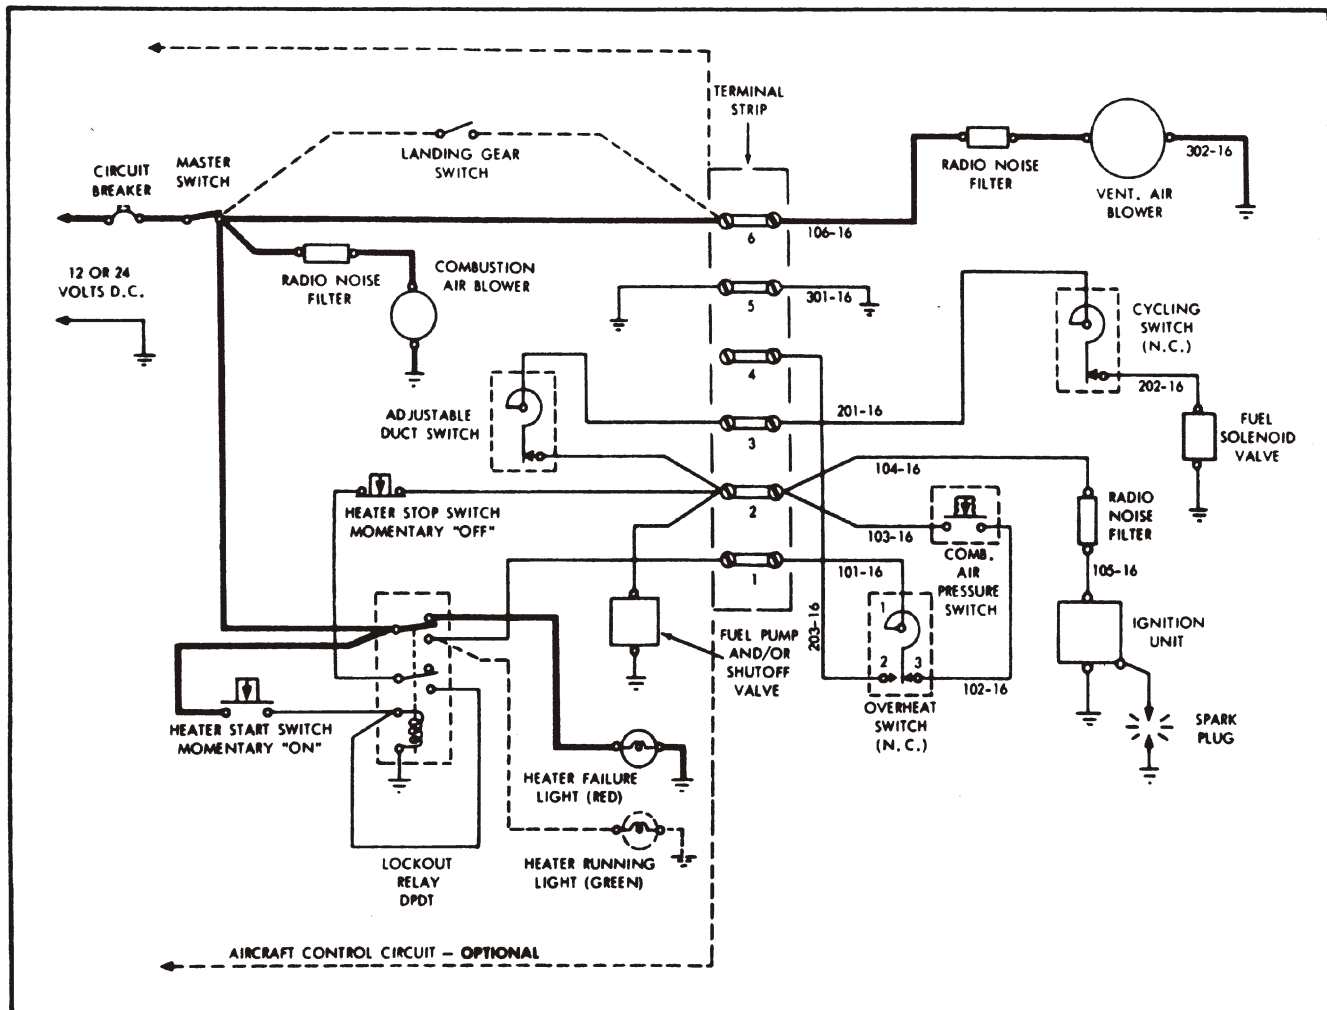

FIGURE 3-6 Primary Power Circuit (Typical)
START SWITCH" energized. (See Figures 3-6 through 3-8.)
The schematic wiring diagrams (Figures 3-6 through 3-8) show, in addition to the heater circuitry, a suggested aircraft control circuit. For the purposes of this manual, the circuitry shown in these illustrations will be utilized to describe electrical checks. However, the aircraft control circuit can vary in different installations and also the heater circuit.
- a. With the "MASTER" switch energized, voltage (24-volts nominal) should be present at the following locations (See Figure 3-6):
- (1) Terminal No. 6 on the heater terminal strip.
- (2) From terminal No. 6 of the heater terminal strip to the ventilating air motor.
- (3) The combustion air blower will be energized.
- (4) To the common connection of the DPDT relay in the suggested aircraft control circuit.
- (5) To one side of the heater start switch.
most convenient location. (See Figure 3-6.)